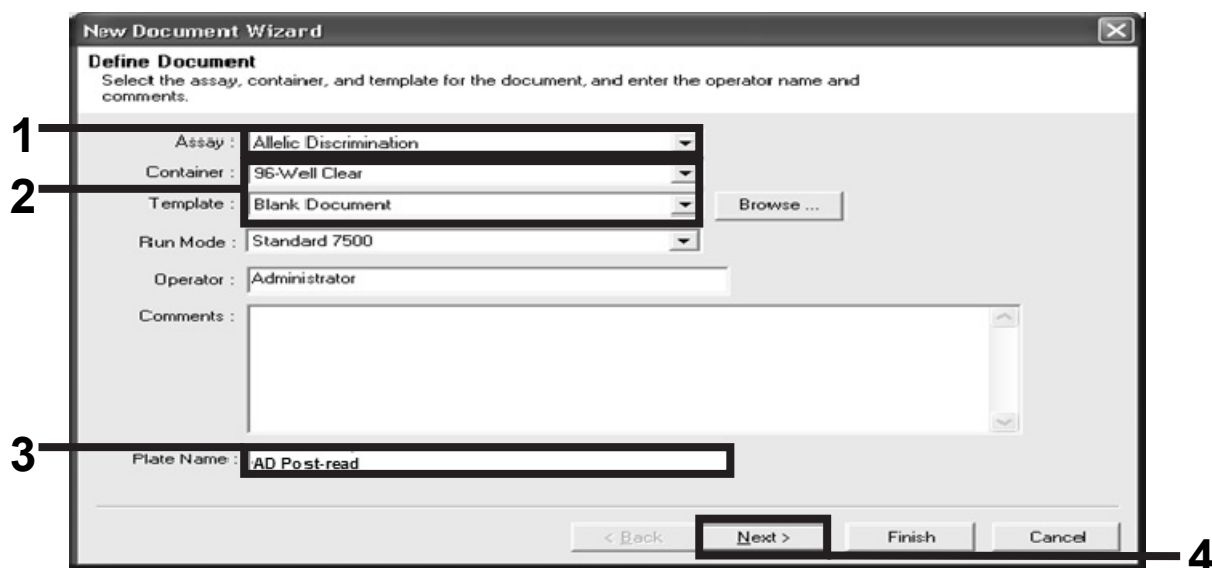

Figure 13. Pre-settings for creating a new post-read run (New Document Wizard).
12. **In the "New Document Wizard" dialog box, click the "Assay" drop-down list, and select "Allelic Discrimination" (Figure 13).**
13. **Accept the default settings for the "Container" and "Template" fields ("96-Well Clear" and "Blank Document", Figure 13). In the "Plate**
Name" field, type *AD Post-read* (Figure 13), and then click "Next>" to access the "Select Markers" dialog box.